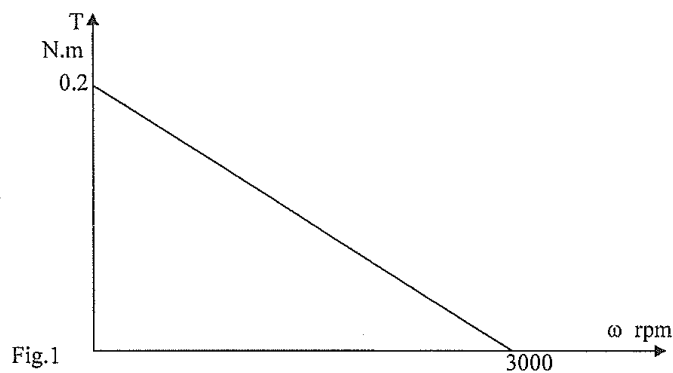

Fig.1
- b) A two phase servo motor has rated voltage applied to its reference phase winding. The T-speed characteristics of the motor with $V_a = 115$ V, 60 Hz, applied to its control phase winding is shown in fig.1 the moment of inertia $J = 10.5 \text{ kg.m}^2$, and the viscous friction of the load is negligible.